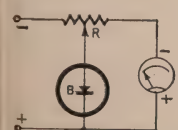

Fig. 10—Zener diode as simple meter protector.
Meter movements are also easily damaged due to overload. Fig. 10 shows the circuit for a voltmeter which cannot be damaged, even if you try! The resistance of the potentiometer (R) is selected to make the basic milliammeter read the right voltage at full scale. The Zener diode, which may be any convenient size, is connected to the arm. To set up the instrument, full voltage is applied to the input, making the meter read full scale. Then the potentiometer is adjusted until the meter indication just starts to drop. Now if the input voltage is increased further (which would normally pin the meter), the pointer will move up slightly, then come to a halt as the Zener diode conducts. Naturally readings below full scale will not permit the diode to conduct.